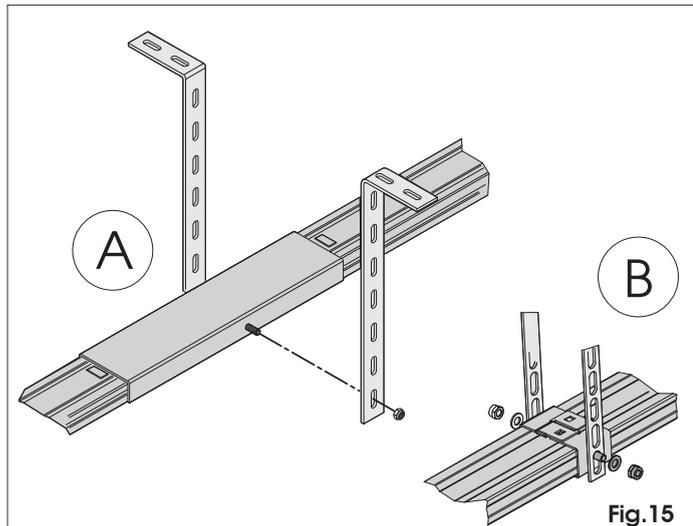

Fig.15
- 13) If using a two-piece guide with central joint (Fig. 15 ref. A) or the central support for a single rail (Fig. 15 ref. B - optional), secure to the ceiling, using the brackets and proceed according to steps 9, 10 and 12 (Fig. 15).